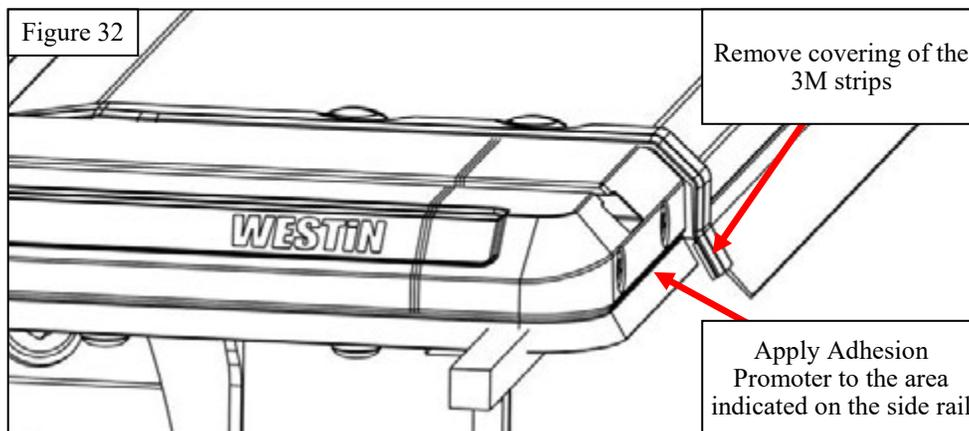

Figure 32
18. Remove the covering over the adhesive strips on the ends of the weather seal and press onto the bottom of the side rails. See **Figure 32**.